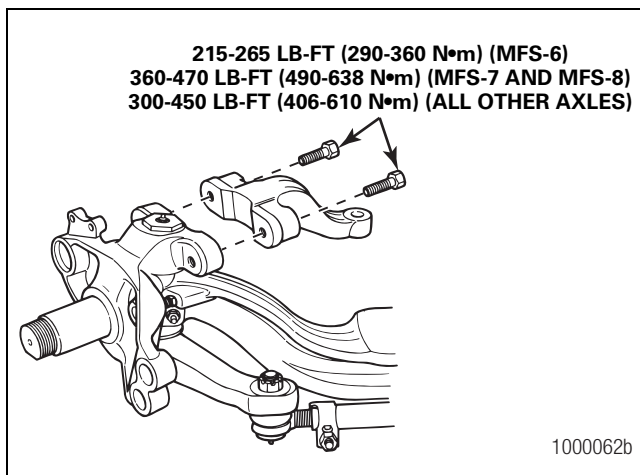

Figure 6.36
2. Insert the bolts through the steering arm. Hand-start the bolts into the knuckle assembly. Figure 6.36.